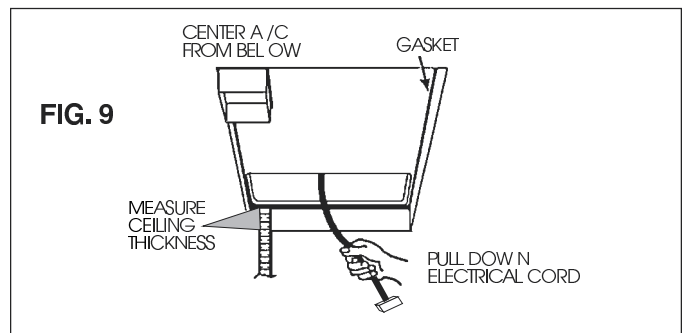

FIG. 9
2. Use two (2) #10 x 3/8" screws (C) to hold duct to base pan. Holes provided in bottom of basepan for these screws to go into.
- C. Reach up into return air opening of the air conditioner and pull the unit electrical cord down for later connection. See FIG. 9.
- D. Measure (See FIG. 9) the ceiling to roof thickness:
F. Start each mounting bolt by hand before tightening any of them. The four (4) threaded inserts in the base pan can be seen to aid in starting the bolts.